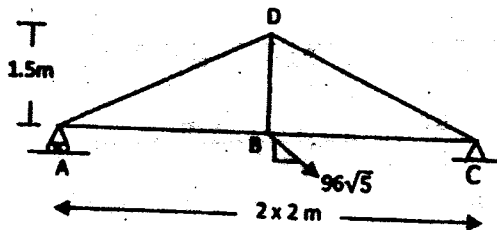

Figure 7
- c Determine member forces of truss shown in Figure 7 using method of joint. (06)